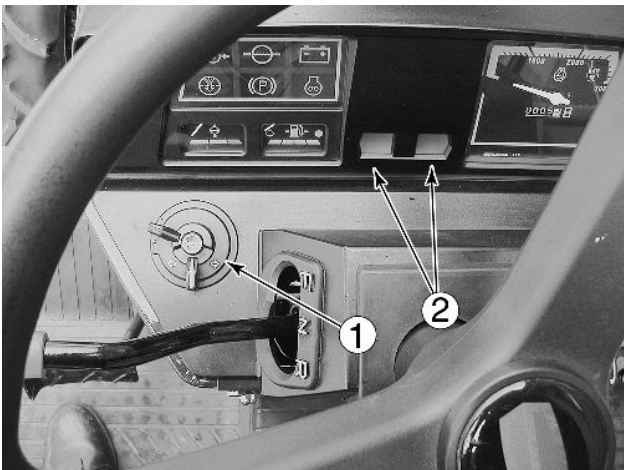

Figure 7A - ①Combination Switch
The warning light ②, Figure 7A, will flash when the lever is moved to the right-hand or left-hand, in union with tractor/trailer turn signals if trailer is attached.